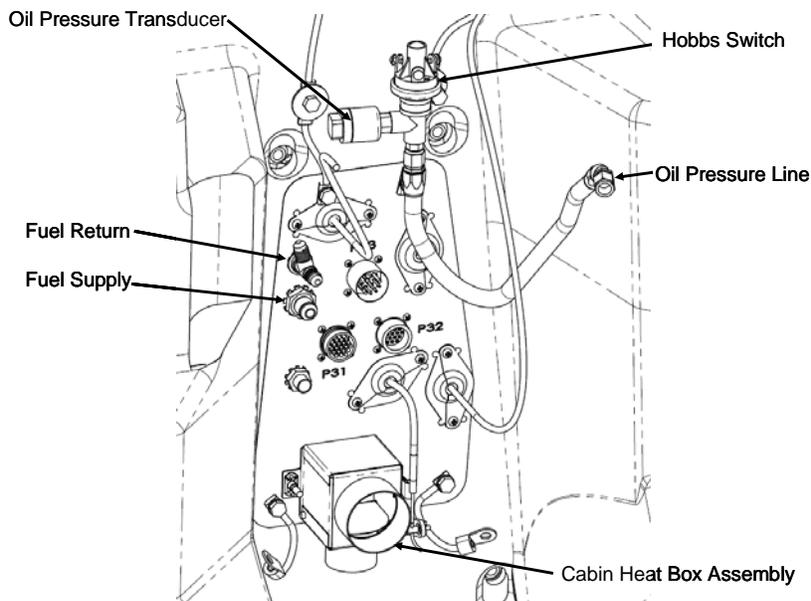

Figure 71-7 Tunnel Firewall Fuel Line Disconnections
24. Disconnect J34 from the oil pressure transducer located as shown in Figure 71-7
25. Disconnect fuel supply and fuel return lines at firewall location shown in Figure 71-7. Cap lines and fittings after disconnection.
26. Disconnect oil pressure line from the Oil Cooler Adapter mounted Oil Restrictor as shown in Figure 71-7. Cap open connections.